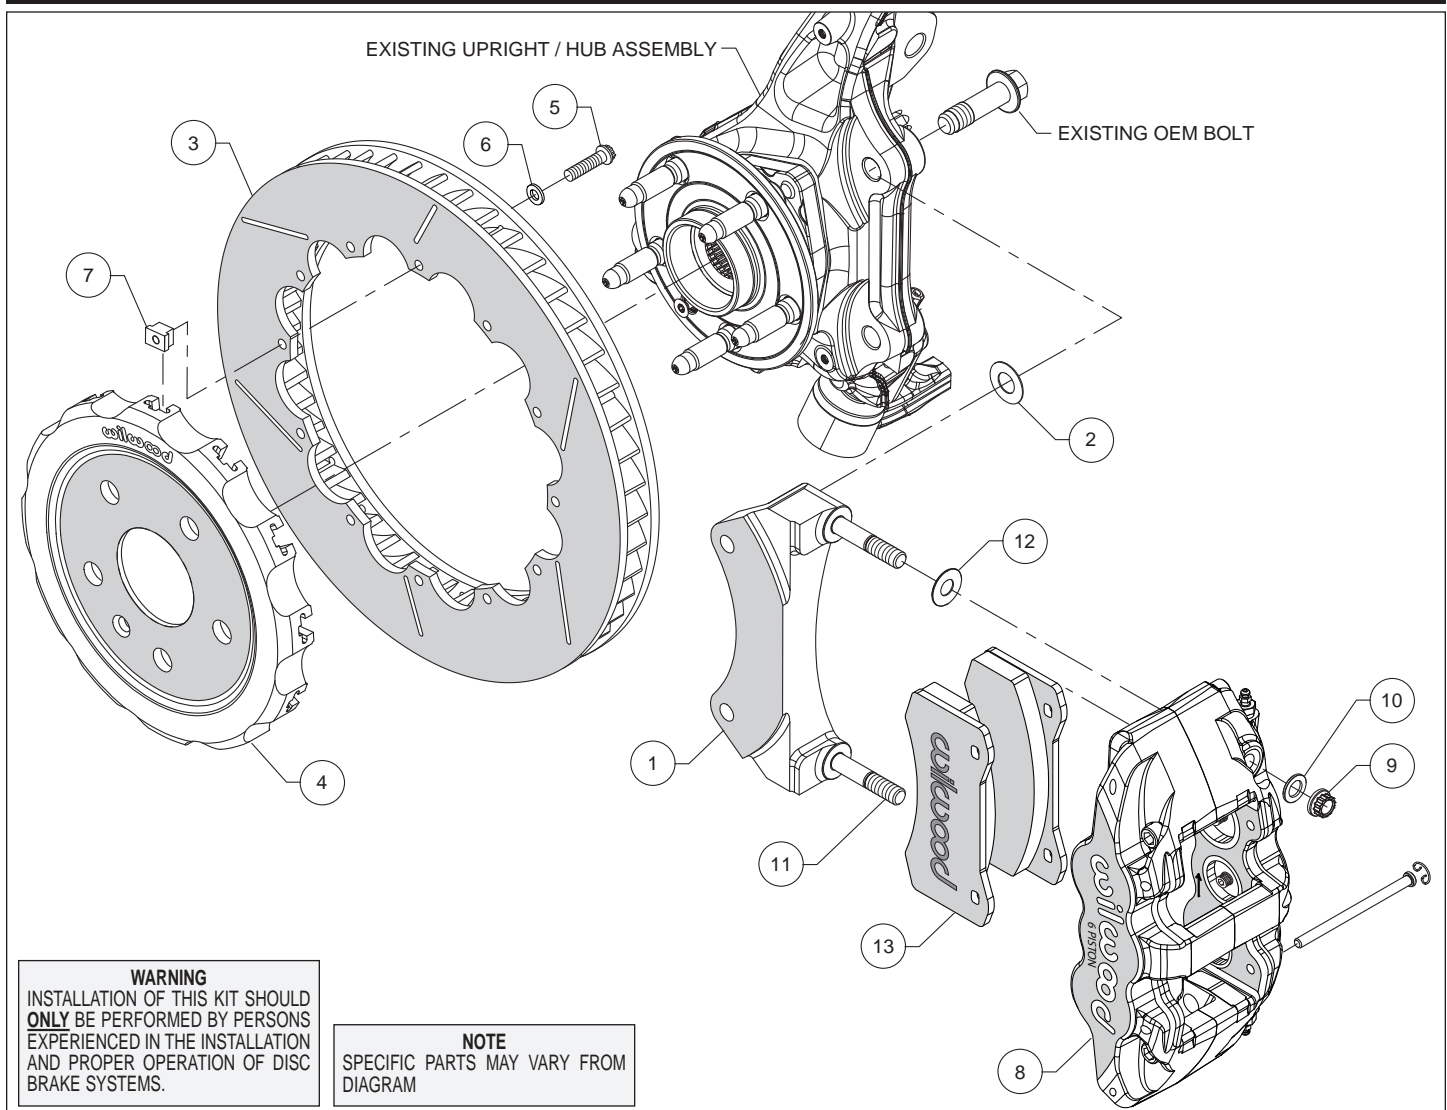
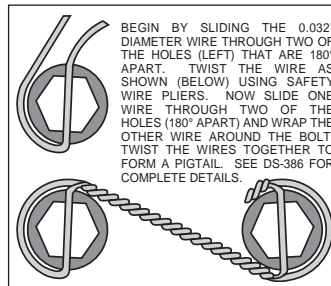

Figure 1. Typical Installation Configuration
Figure 4. Safety Wire Diagram
Assembly Instructions (numbers in parenthesis refer to the parts list and Figure 1 on the preceding pages):
- The caliper mount bracket (1) should initially be installed with clean, dry threads on the mounting bolts. Orient the bracket, as shown in Figure 1 and Photo 1, and install using saved OEM caliper mounting bolts. Initially place one .029" thick shim (2) on each bolt between the bracket and upright, Figure 1. Temporarily tighten the mounting bolts. **NOTE:** The bracket must fit squarely against the mount bosses on the upright. Inspect for interference from casting irregularities, machining ridges, burrs, etc. Later, after the caliper alignment has been checked, the mount bolts will be secured using red *Loctite*® 271.
- Orient the rotor (3) and the hat (4) as shown in Figure 1 and Photo 2. Attach rotor to hat using bolts (5), washers (6), and t-nuts (7), Figure 1. Follow additional instructions included with the bolt kit. Using an alternating sequence, apply red *Loctite*® 271 to the threads, and torque to 120 **in-lbs**. For an added measure of security, the bolts may be safety wired using standard 0.032 inch diameter stainless steel safety wire as shown in Figure 4. Refer to Wilwood's data sheet DS-386 (available at www.wilwood.com/Pdf/DataSheets/ds386.pdf) for complete safety wire installation instructions.
- NOTE:** This kit contains distinct right and left hand calipers that must be mounted in a specific direction, as described below. Lubricate the caliper mounting studs (11) with lightweight oil. Initially place one .030" thick shim (12) on each stud between the caliper and the bracket, as shown in Figure 1 and Photo 3. Mount the caliper (8) onto the bracket (1) using lock nuts (9) and washers (10), Figure 1. Temporarily tighten the lock nuts. Ensure that the caliper is mounted so the largest pistons are at the rotor exit end of the caliper, in relation to the direction of the rotor. View the rotor through the top opening of the caliper. The rotor should be centered in the caliper, Photo 4. If not, adjust by adding or subtracting shims (2) between the bracket and the upright. Always use the same amount of shims on each of the two mounting bolts. Once the caliper alignment is correct, remove the bracket mounting bolts one at a time, apply red *Loctite*® 271 to the threads, and torque to manufacturer's specifications.
- Remove the two pad retaining pins from the caliper (8) by carefully popping out the pin retaining clips and sliding out the pins. Insert the brake pads (13) into the caliper from the bottom, Figure 1 and Photo 5. With the friction material facing the rotor, secure the brake pads in place with the pad retaining pins and clips, Photo 6. Reinstall the caliper onto the caliper mounting bracket and temporarily tighten the lock nuts. Check that the top of the brake pad is flush with the outside diameter of the rotor, Photo 7. If not, adjust by adding or subtracting shims (12) between the caliper and the bracket. After the caliper pad height is set, torque the caliper lock nuts (9) to 47 ft-lb.